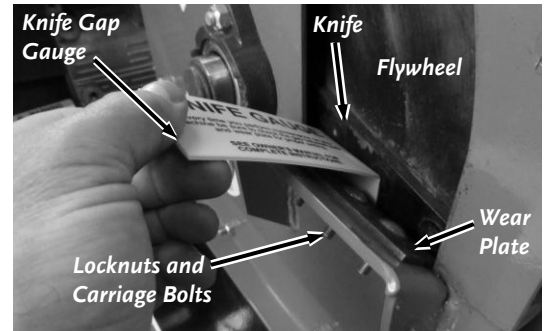

Figure 36
2. Use a stick to rotate the Flywheel until the Knife is positioned next to the Wear Plate (**Figure 36**).
5. Slide the Gap Gauge between the Knife and Wear Plate (**Figure 36**). Adjust the Wear Plate against the Knife Gauge and tighten the outside Locknut, check the gap, tighten the inside Locknut and then the center Locknut.